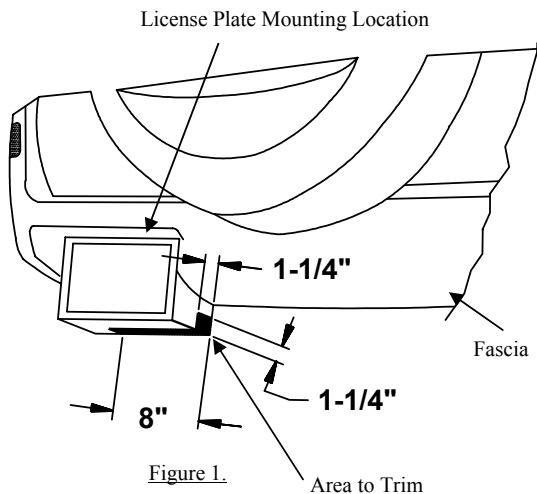

Figure 1.
①	Qty. (4)	Hex Bolt, M12 x 1.25 x 35mm CL8.8
②	Qty. (4)	Conical Toothed Washer ½
2. Using a felt tipped pen, measure and mark an outline on the fascia described in Figure 1.